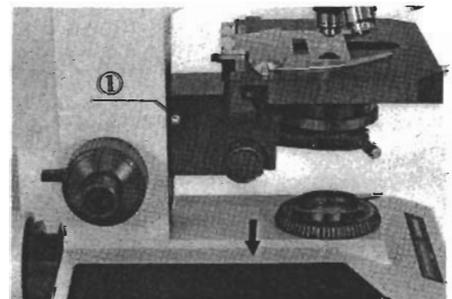

Fig. 19
The stage block height can be adjusted by loosening the stage block locking screw ① with the Allen wrench provided and re-tightening it at the lower position. (Fig. 19)